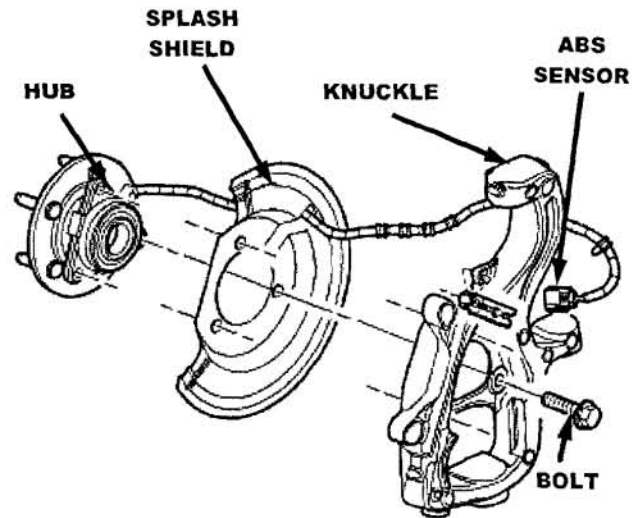

Figure 2
4. **FOR VEHICLES WITH ABS:** Remove the brake rotor and ABS wheel speed sensor (Figure 2).